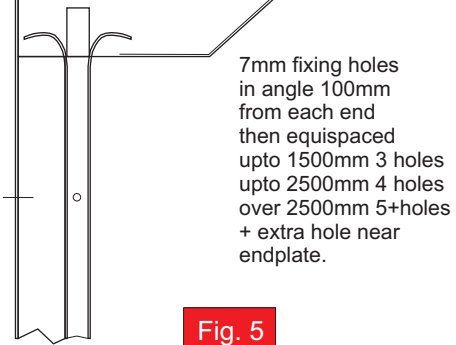

Fig. 5
- Guide channels, and 30mm x 30mm box section (electric only) supplied bolted to angle with M8 CSK bolts and M8 nyloc nuts (fig 5) Head plates welded to angle.